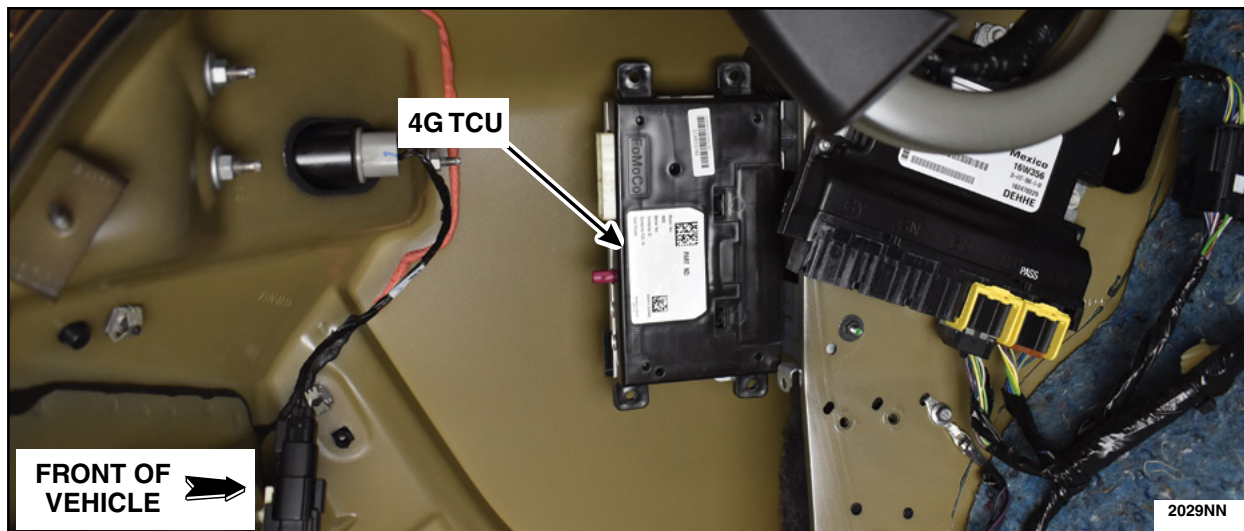

FIGURE 3
4. Install the 4G TCU. See Figure 3.